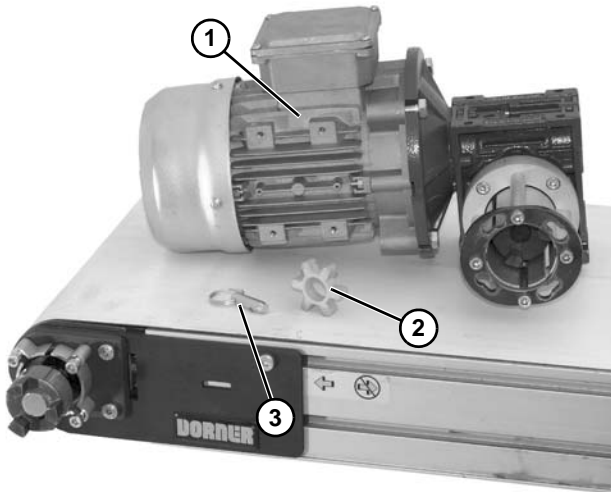

Figure 4
1. Typical components (**Figure 4**).